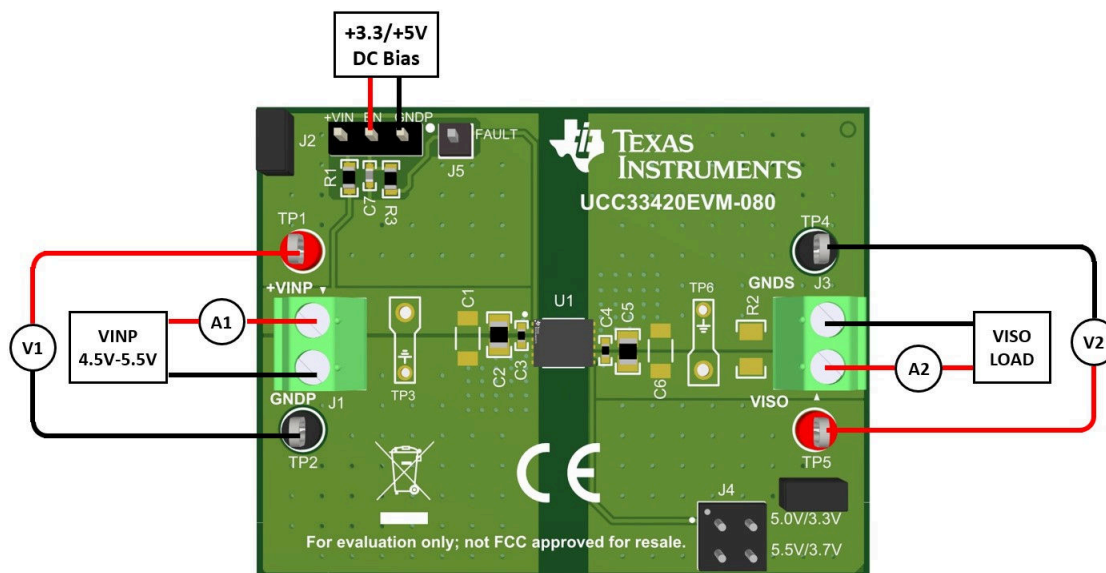

Figure 2-1. Typical Efficiency Measurement Setup
The UCC33420EVM-080 EVM utilizes screw terminals for quickly connecting to  $V_{INP}$  and VCC. EN connections are made through pin connectors. Connecting the appropriate ammeters and voltmeters, as shown in Figure 2-1, allows accurate EVM efficiency measurements to be made.
3. Connect a variable load between J3:1 (VISO) and J3:2 (GNDS). If using an electronic load, set to constant current (CC), 300 mA. Leave the load disabled until the EVM is powered.
4. Some electronic loads are not able to regulate/stabilize CC when setting in the low mA range. Monitor the input current and load currents by inserting ammeters as shown in Figure 2-1. A current probe can be used with the oscilloscope to verify the stability of the DC current being regulated by an electronic load.